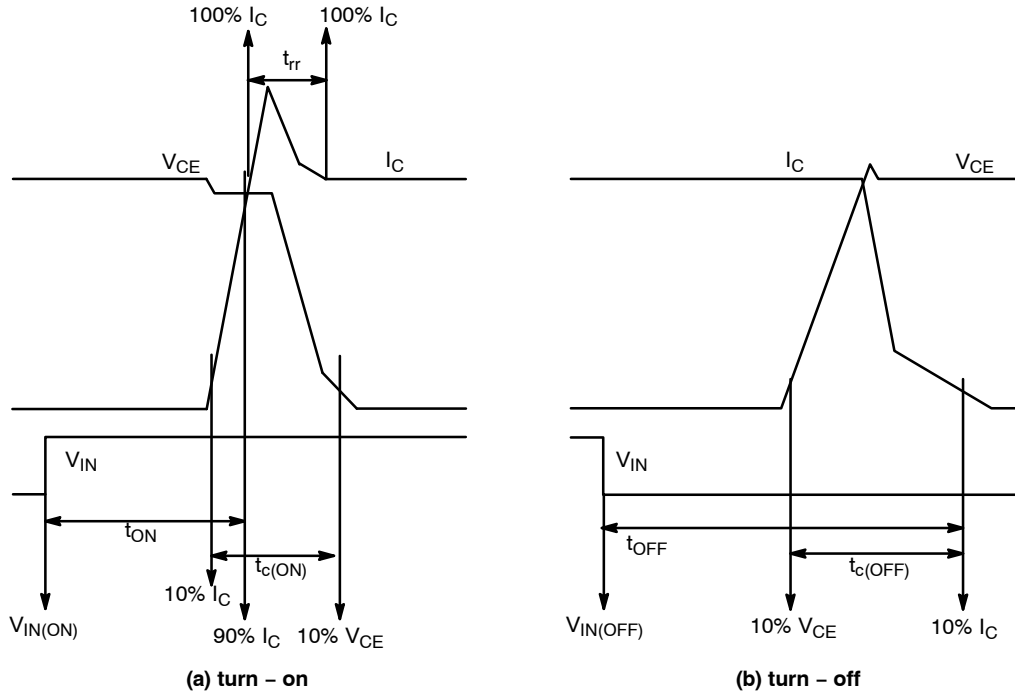

Figure 3. Switching Time Definition
7.  $t_{ON}$  and  $t_{OFF}$  include the propagation delay time of the internal drive IC.  $t_{C(ON)}$  and  $t_{C(OFF)}$  are the switching time of IGBT itself under the given gate driving condition internally. For the detailed information, please see Figure 3.